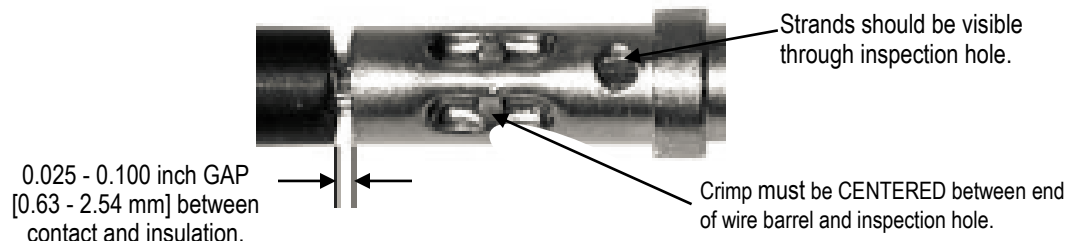

Figure 1
- Before crimping, verify sufficient wire length by checking that ALL wire strands are INSIDE crimp barrel and visible at the inspection hole as shown in Figure 1.
- E. Adjust locator to produce crimps as shown Figure 1 by performing test crimps using the same procedure described in section 1.4.